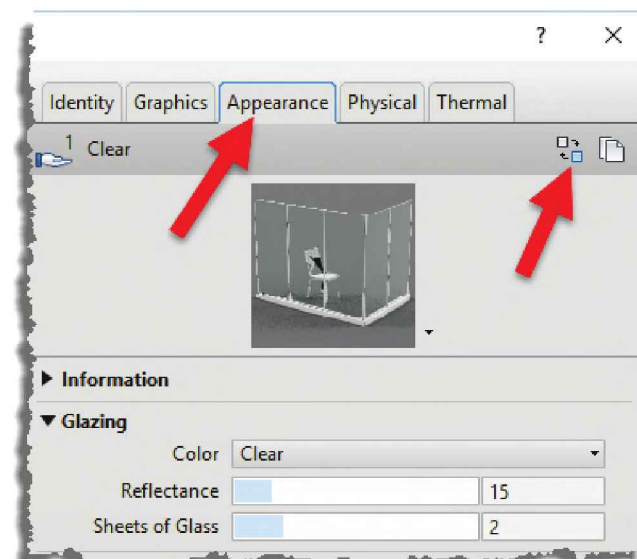

FIGURE 15-2.11A Replace this asset
26. Open the *Asset Browser* by clicking the **Replace this asset** in the upper right (Fig. 15-2.11a).